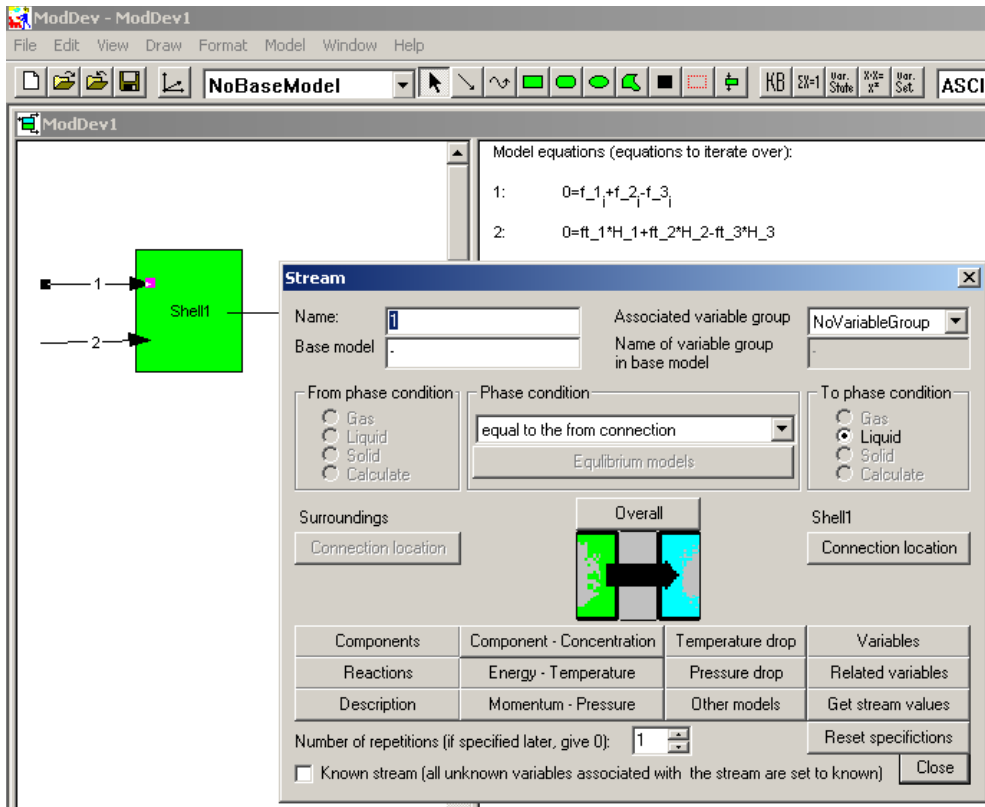
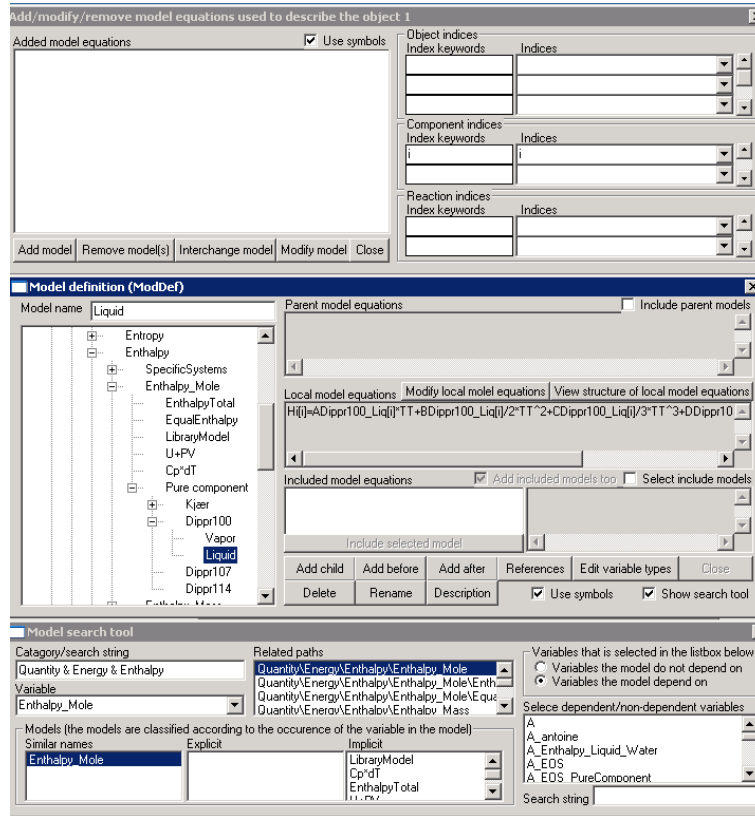

Figure 5: Shell description tool.
Figure 7: “Add/delete models” tool plus associated tools – “model definition” and “model search”.
Step3: Describe streams – Double click on stream 1 to enter the “stream description” tool (fig. 5).
Close the “variables” window with clicking on “Close”. Click on “energy-temperature” (on the stream description window – see fig. 5) to introduce a model for enthalpy as a function of temperature (for the simple example, we will ignore the effect of pressure). Figure 7 shows the screen shot at this stage.